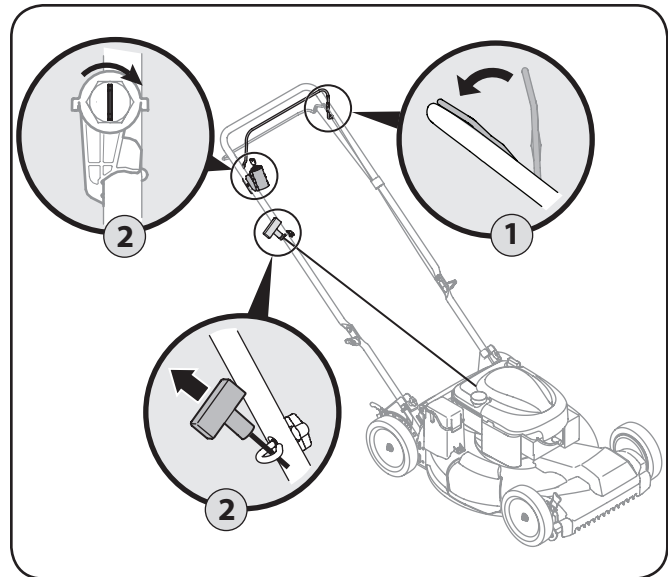

Figure 5-1
1. Standing behind the mower, squeeze the blade control against upper handle. See Figure 5-1
2. **Recoil Start:** Holding these two handles together firmly, grasp recoil starter handle and pull rope out with a rapid, continuous, full arm stroke. See Figure 5-1. Keeping a firm grip on the starter handle, let the rope rewind slowly. Repeat until engine cranks. Let the rope rewind each time slowly.